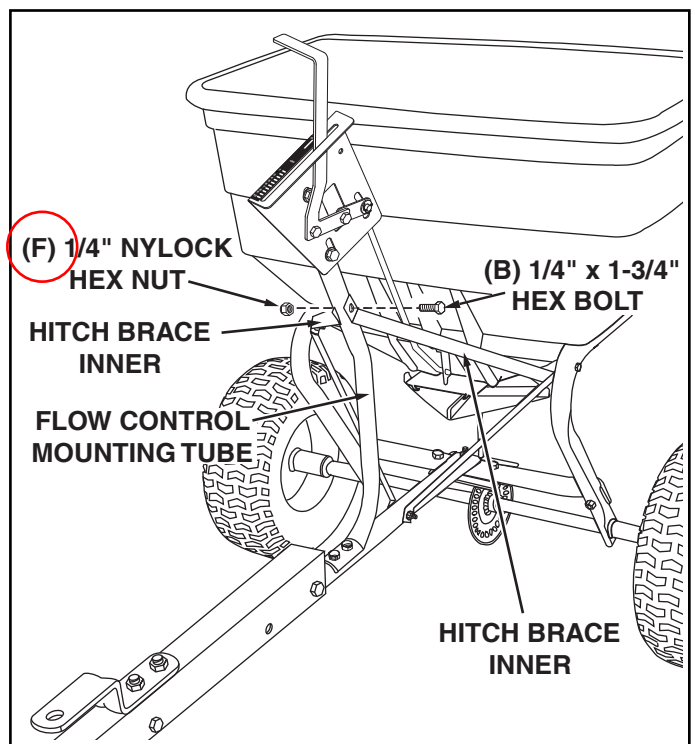

FIGURE 7
13. Assemble the two **INNER** hitch braces to the flow control mounting tube using a 1/4" x 1-3/4" hex bolt (B) and a 1/4" nylock hex nut (C). **DO NOT TIGHTEN YET.** See figure 7.